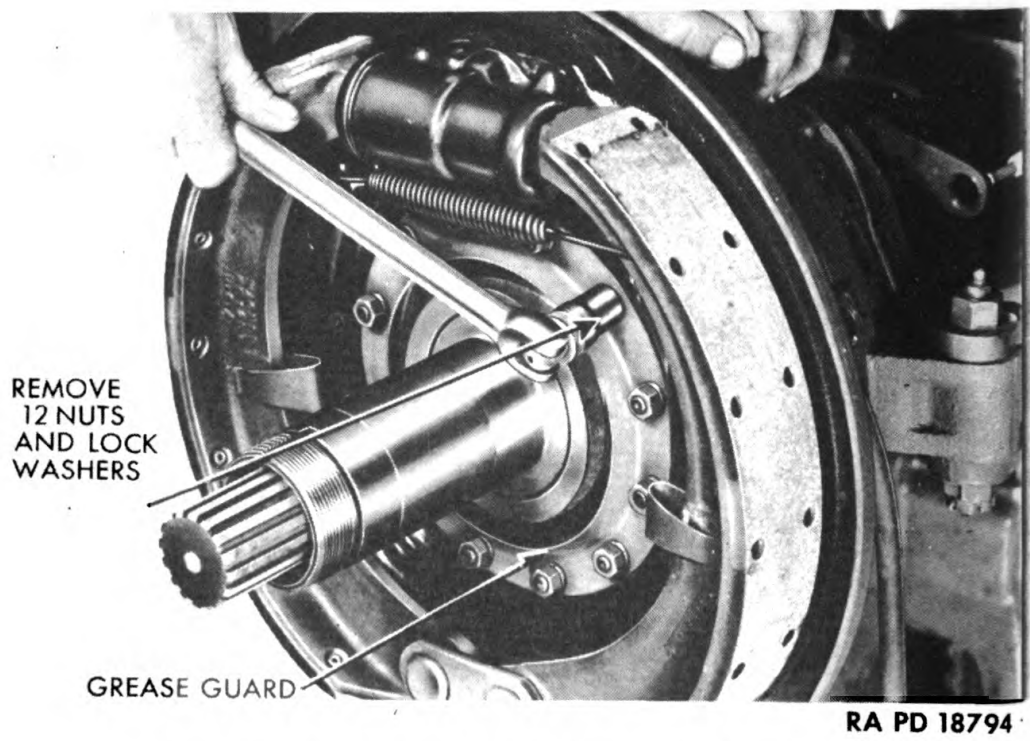
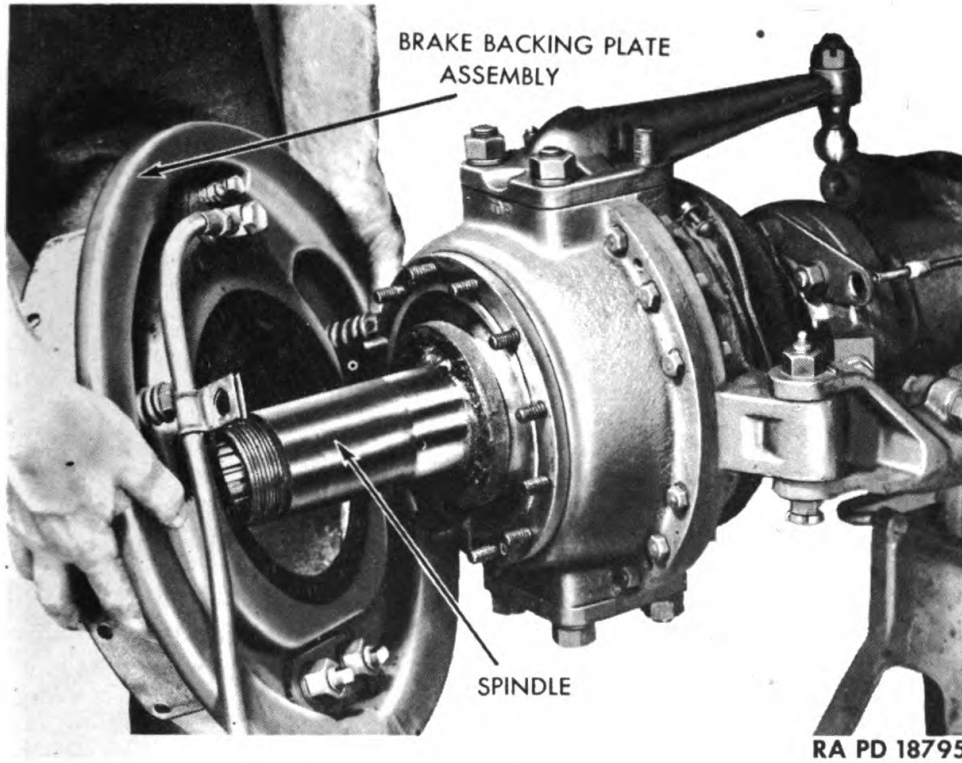

Figure 27 — Removing Grease Guard Nuts
Figure 28 — Removing Brake Backing Plate Assembly
e. Remove Brake Backing Plate Assembly. Remove 12 nuts and lock washers from studs holding grease guard or dirt deflector to brake backing plate (fig. 27). Lift off deflector from studs. Lift brake backing plate assembly from axle housing (fig. 28).